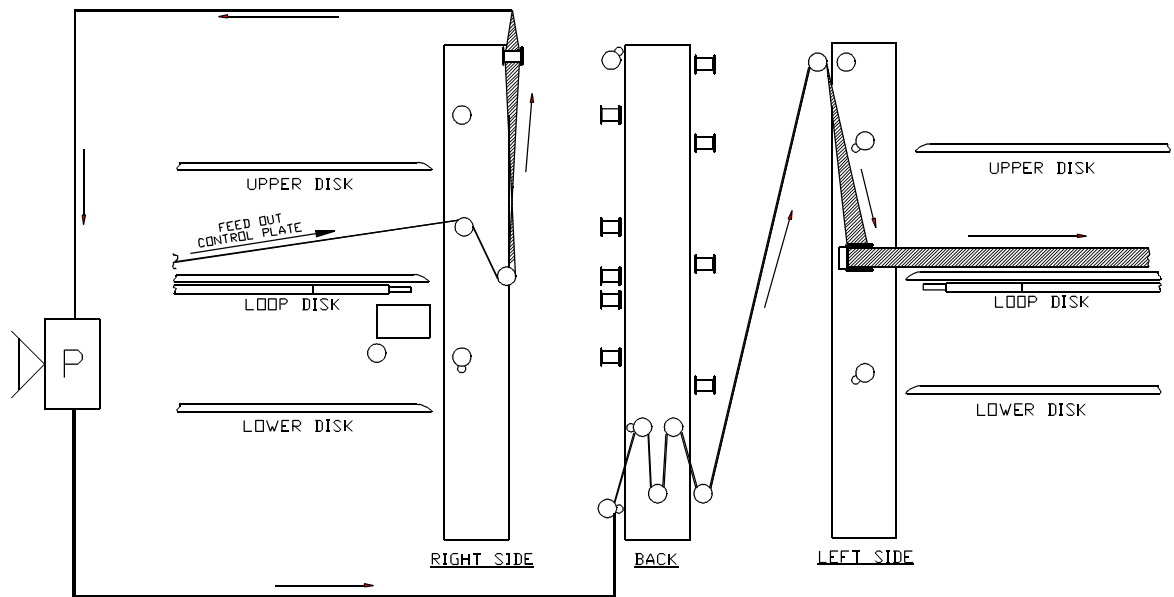
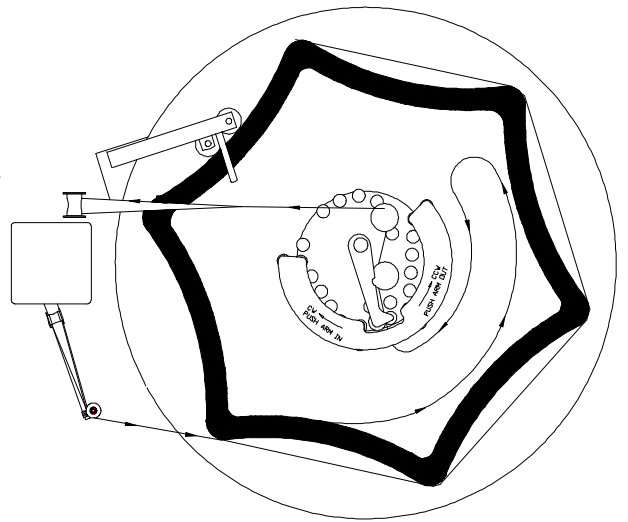

Figure 5
Figure 6
5. Thread the film from the Loop Control Plate through the Projector back to the Loop Disk (See Fig. 5). Allow a sufficient length of film at the output of the projector to return through the Take-Up to the outside edge of the Loop Disk as shown in Fig.6, Page 6.